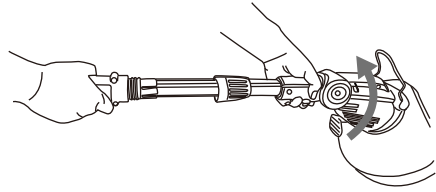

Fig 11
2. Twist the pole to an angle of 90° (Fig 11).